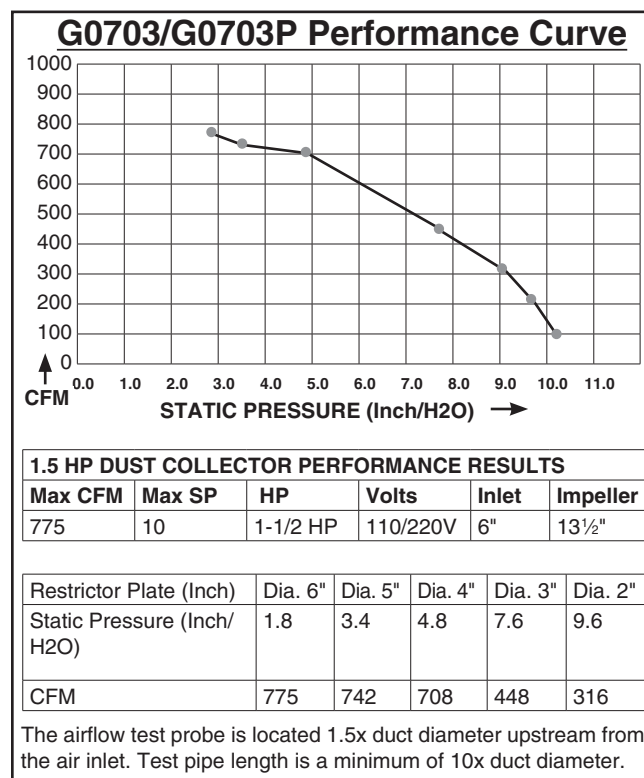

Figure 47. G0703/G0703P performance curve table and data.
5. Compare the total static pressure loss for that line to the closest CFM given in **Figure 47**.
Example: The G0703/G0703P **Performance Curve** is illustrated in **Figure 47**. Find 4.8 on the Static Pressure axis (the amount of total static pressure loss calculated in **Figure 28**), then refer to the closest value on the CFM axis—approximately 708 CFM.